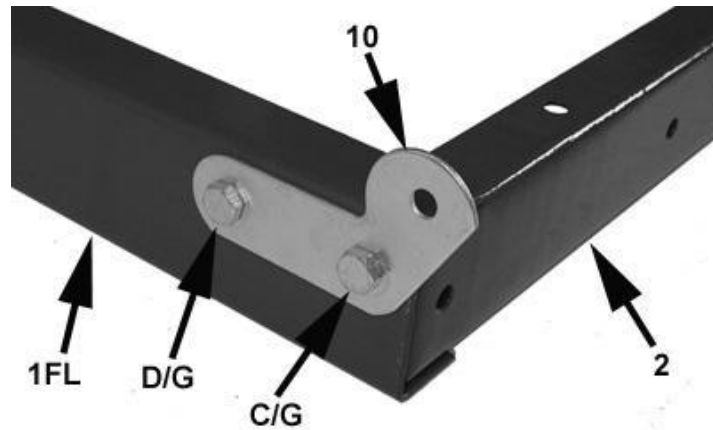

Figure 1-4
4. Verify that the rear cross member (2) is positioned with the opening the channel facing the hitch. See figure1-4.
5. Position rotation bracket (25) as shown and connect rear cross member (2) to left frame rail (1FL) with M10 x 20 bolt (D), M10 x 30 bolt (C) and M10 nylon lock nuts (G). See figure 1-4.